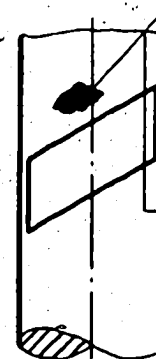

Fig. 2
- . material has been cut away above the control edge (Fig. 2);